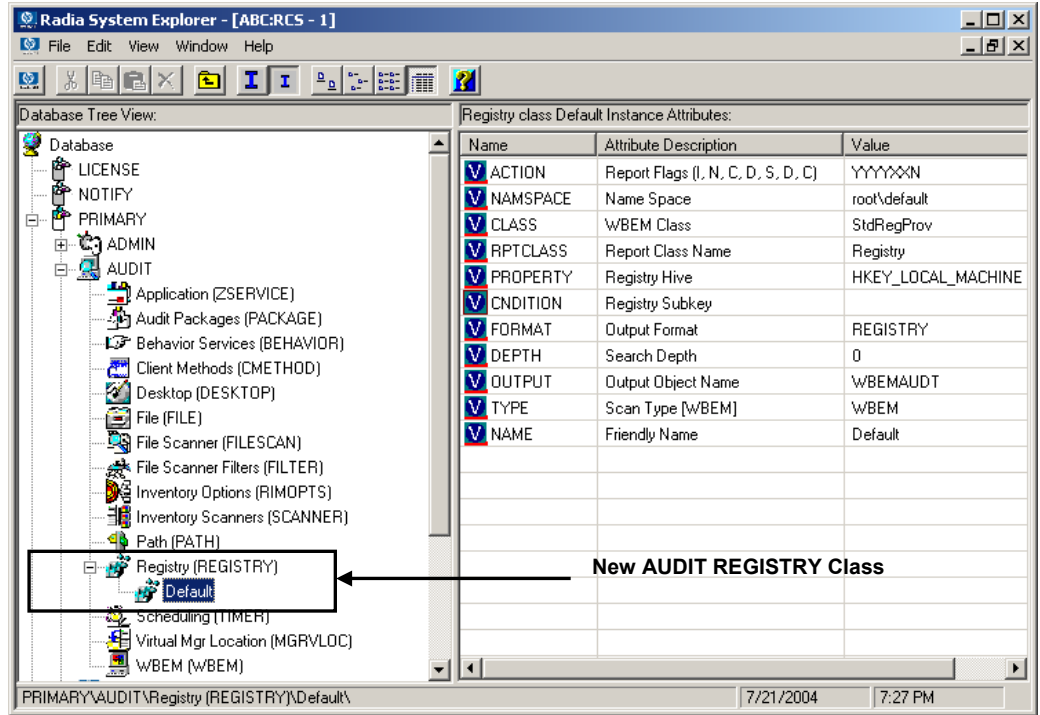

Figure 5.8~ REGISTRY class added to the AUDIT domain.
6. Restart the Radia Configuration Server. The Registry class is newly available in the `AUDIT` domain, as shown in Figure 5.8 on page 116.